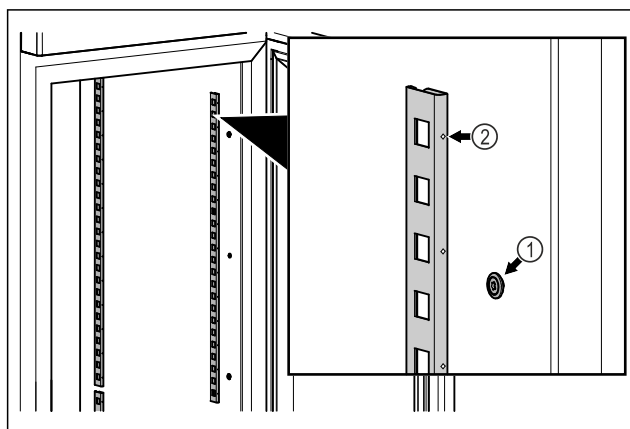

Fig. 54 Example illustration
- ▶ Hook the snap strips into the suspension Fig. 54 (1). Mark Fig. 54 (2) must point forwards.